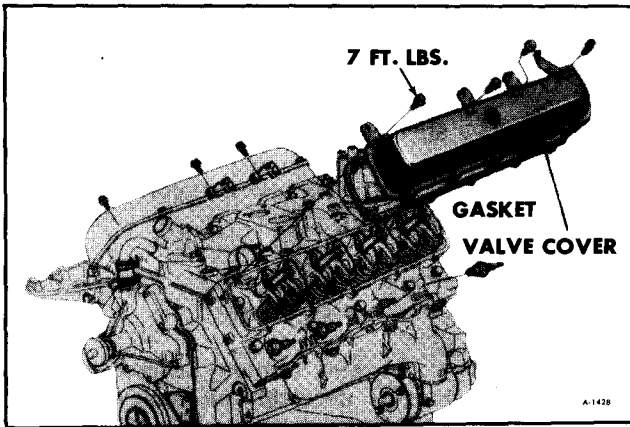

Figure 20—Valve Cover.
IMPORTANT: In both production and service, a silastic sealer, GM No. 1051435, replaces the rubber gasket shown in Figure 20. Though the rubber service gasket is available, the silastic sealer makes a better oil seal. A tube wringer, Tool J-25027, insures uniform application.
2. Install valve cover and torque attaching screws as shown in Figure 20.